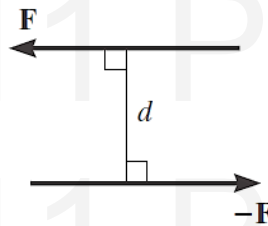

Figure 4–4: Moment of a Couple
- A couple is defined as two **parallel** forces that have the **same magnitude**, but **opposite directions**, and are separated by a **perpendicular distance  $d$** , Figure 4–4.
- The moment of a couple,  $M$ , Figure 4–4, is defined as having a magnitude of